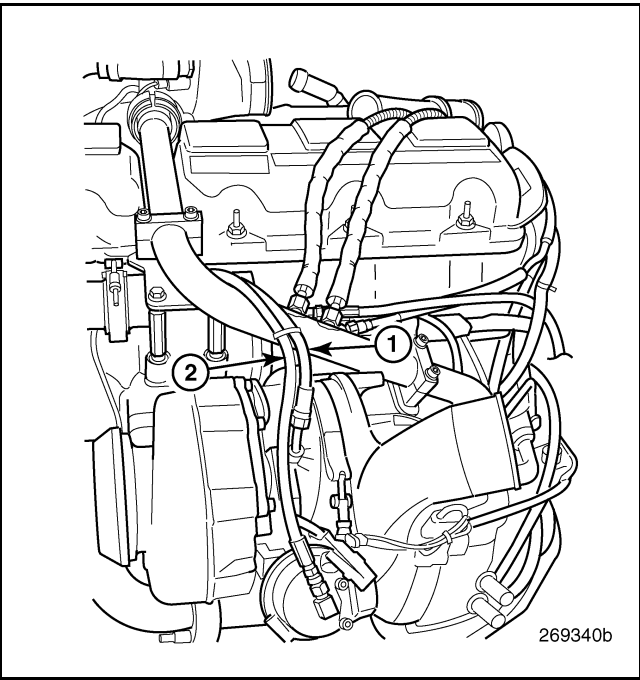

Figure 483 — Oil Supply and Air Lines
1. Disconnect the turbocharger oil supply line and the air line to the VTG actuator at the turbocharger (Figure 483). Plug the fittings to keep dirt and debris out.